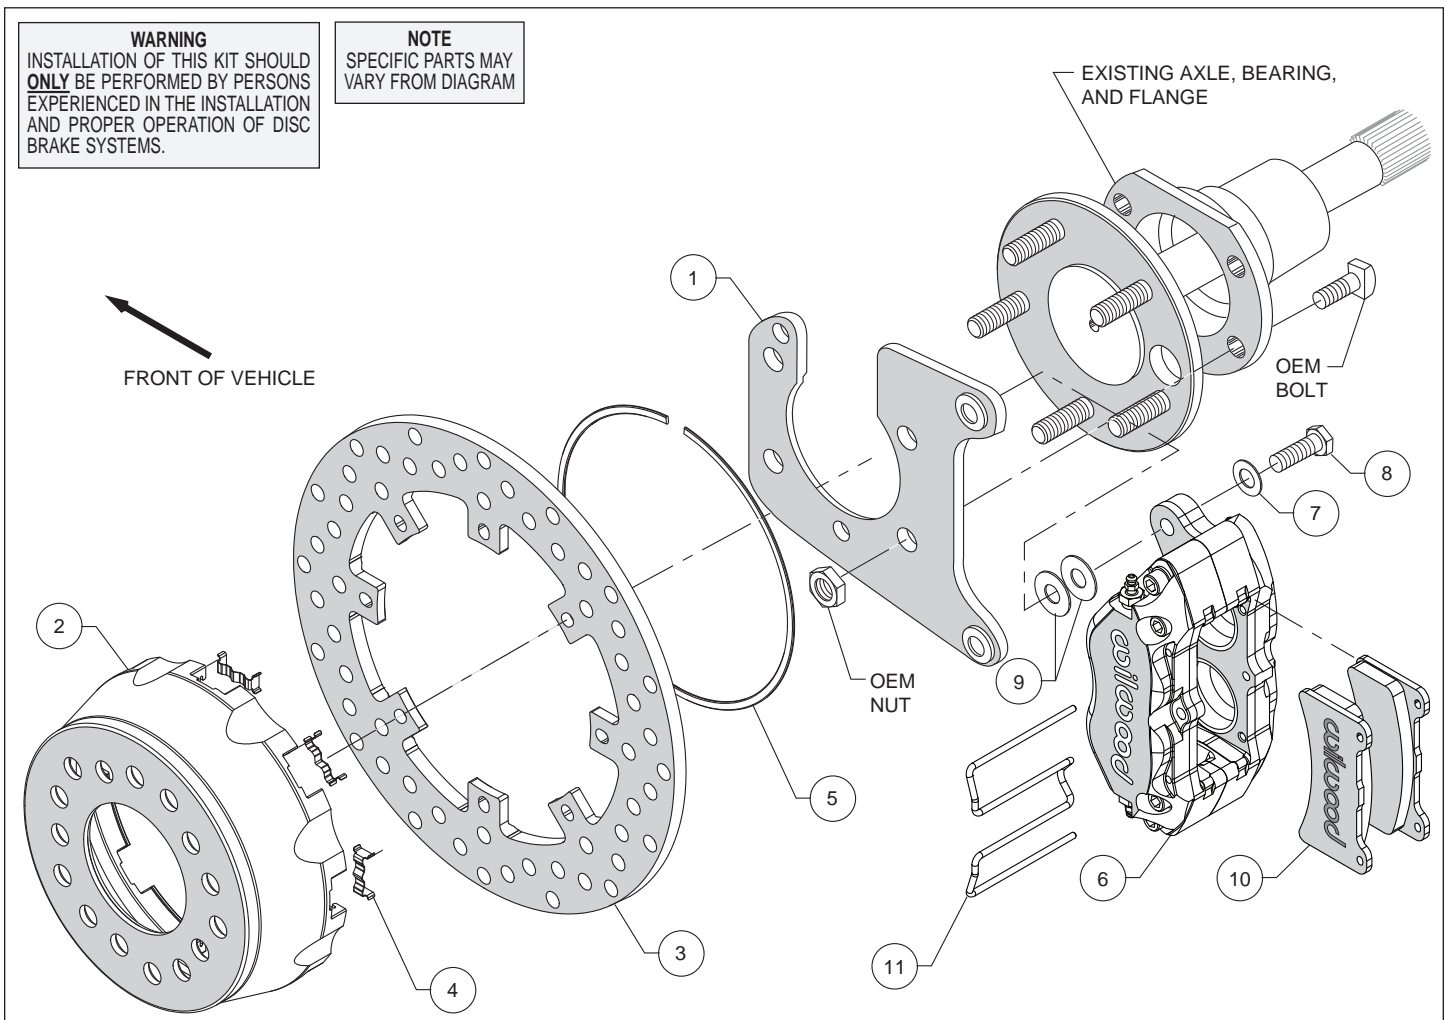

Figure 1. Typical Installation Configuration
**Assembly Instructions** (numbers in parenthesis refer to the parts list and Figure 1 on the preceding pages): **CAUTION:** All mounting bolts must fully engage clinch nuts. Be sure to check that all bolts are either flush or protruding through flanged side of clinch nut after shimming, Figure 5.
- Install the caliper mounting bracket (1), with the slot for the axle pointing upward, to the housing flange using the OEM bolts and nuts, as shown in Figure 1 and Photo 1. Ensure that the heads of the clinch nuts are facing outboard, Photo 1. Apply red *Loctite*® 271 to the OEM bolt threads and torque to OEM specifications.
- Insert the dynamic mount wear plates (4) into the slots in the hat (2) making sure the tabs snap in place, Photo 2. Orient the rotor (3) as shown in Figure 1 and Photo 3, with the flush mount tab side facing the hat. Attach the rotor to the hat using snap ring (5) by pushing down on the rotor and installing the ring into the groove in the hat, as shown in Photo 4. Ensure that the ring is fully engaged in the groove.
- Align the correct hole pattern in the hat (2) with the axle stud pattern and slide the hat/rotor assembly onto the axle hub. **NOTE:** The hat must fit flush against the axle flange or excessive rotor run out may result. Install three lug nuts (finger tight) to keep the hat/rotor in place while continuing with the installation. **NOTE:** Some OEM and aftermarket axles come with stud sizes larger than 0.50" diameter. Verify stud size, and if necessary, have a qualified machine shop drill the hats to the correct size.
- **NOTE:** Please reference the caution statement at the beginning of the assembly instructions. Mount one caliper (6) onto the mounting bracket (1) using bolts (8) and washers (7), as shown in Figure 1. Initially place two .035" thick shims (9) on each bolt between the caliper and the bracket, Photo 5. Temporarily tighten the mounting bolts and view the rotor (3) through the top opening of caliper. The rotor should be centered in the caliper, Photo 6. If not, adjust the caliper by adding or subtracting shims between the bracket and the caliper. Always use the same amount of shims on each of the two mounting bolts. **NOTE:** The end of each bolt must be flush with or slightly protruding from the head of the clinch nut. If necessary, place spare shims between washer and caliper mounting ear to achieve the proper clinch nut engagement, as shown in Figure 5. Once the caliper alignment and clinch nut engagement are correct, remove the bolts one at a time, apply red *Loctite*® 271 to the threads, and torque to